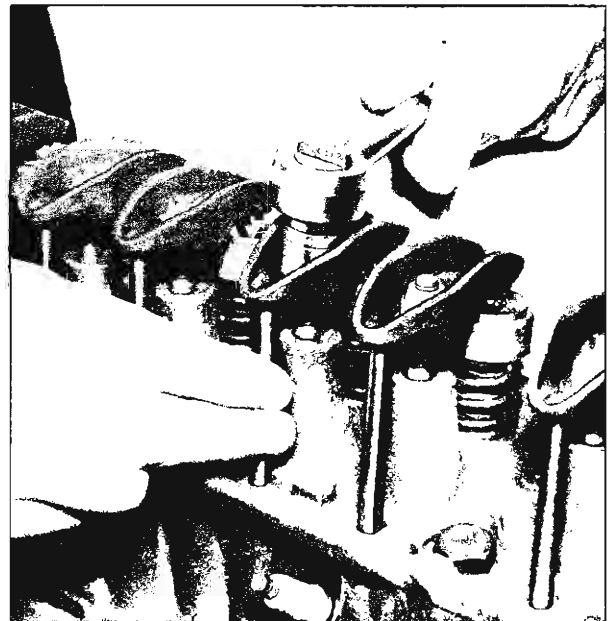

Fig. 11—Adjust Valve Lash
- b. Turn adjusting nut until all lash is removed from valve train. This can be determined by checking push rod side play by hand while turning adjustment nut slowly (fig. 11). At this point, turn adjusting nut one more turn to place the lifter plunger in center of its travel.